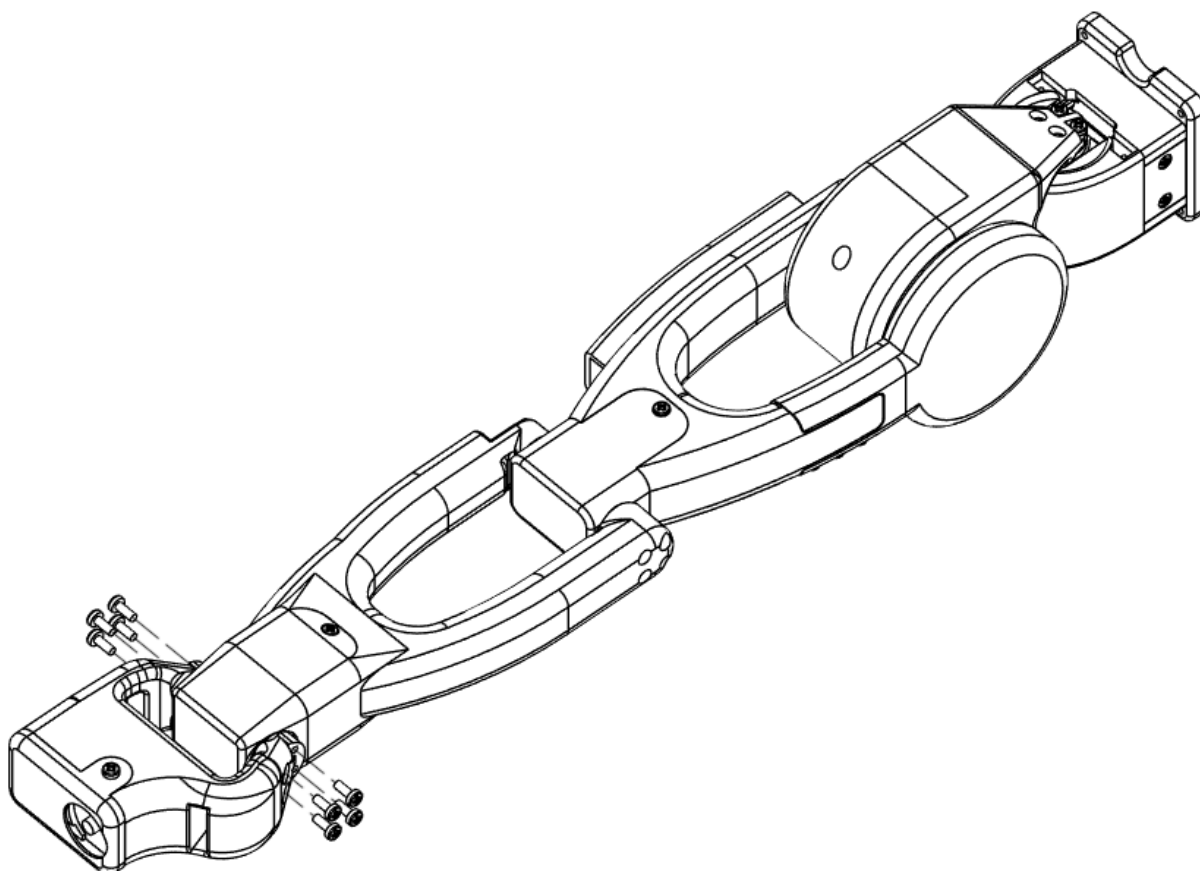
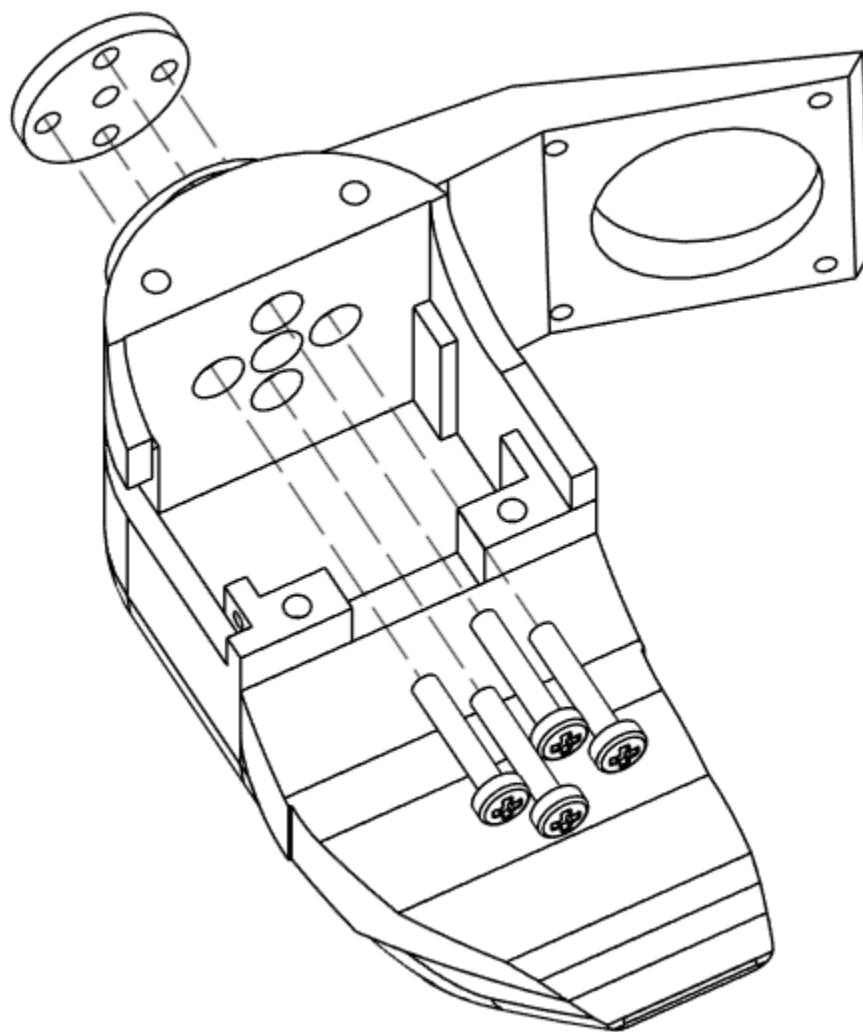
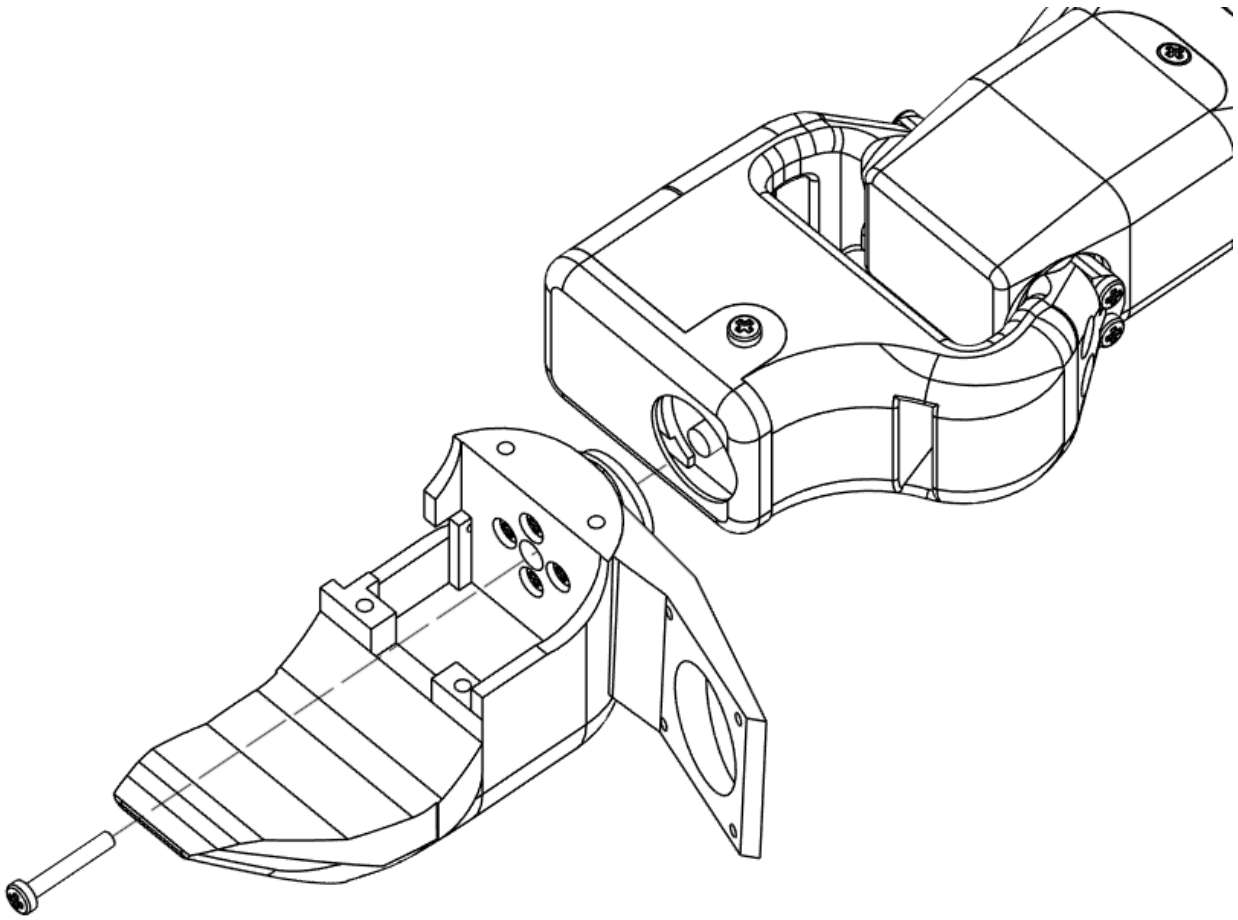
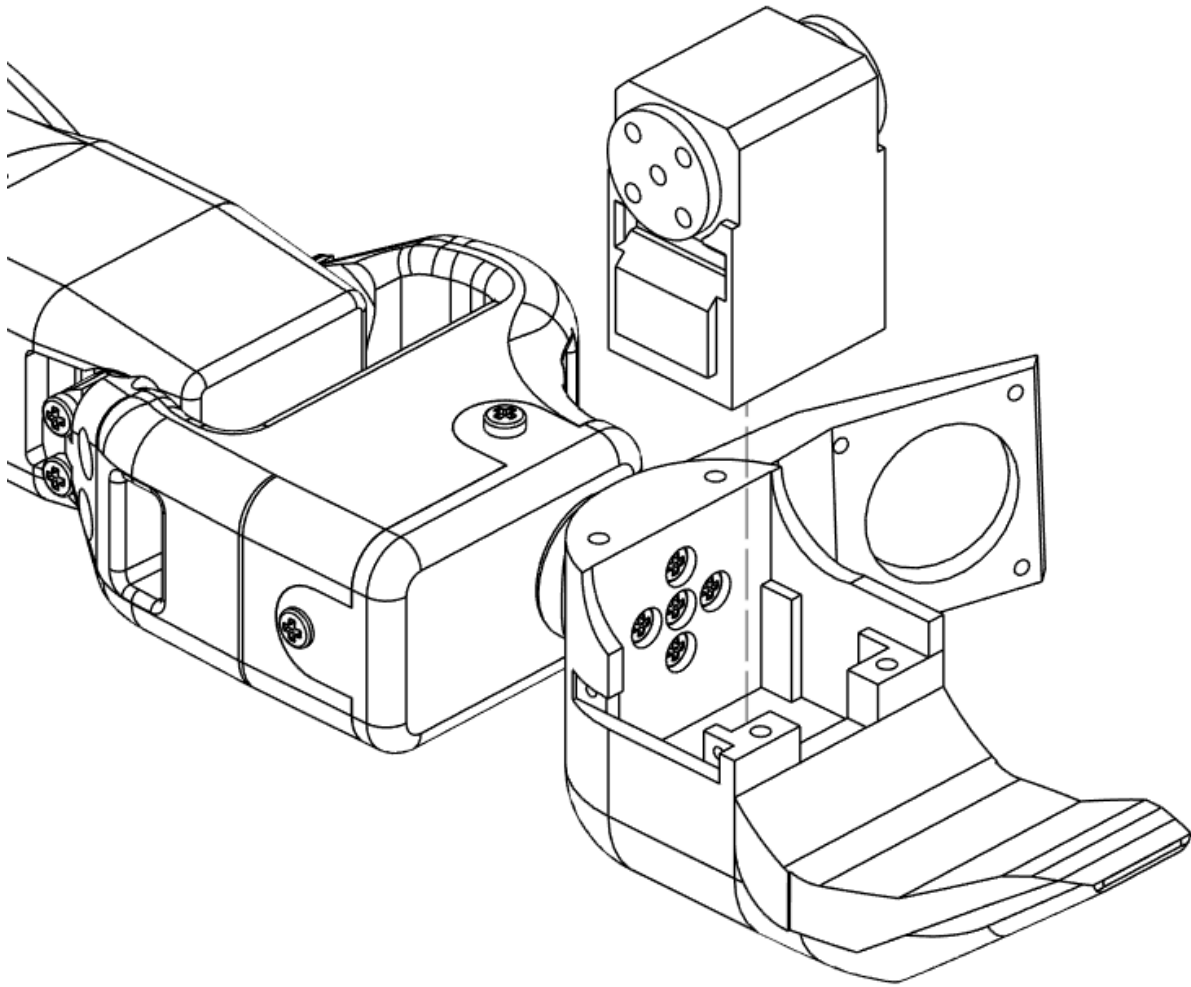

Figure 10.16 - Wrist Assembly
Figure 10.17 - Gripper Base & Motor Horn Assembly
Figure 10.18 - Gripper Assembly
Figure 10.19 - Motor 6 Assembly
17. Fasten Wrist to Motor 4 as shown in Figure 10.16
- a. (8) M3x8mm
18. Fasten Driven Motor Horn to Gripper Base as shown in Figure 10.17
- a. (4) M3x16mm
19. Fasten Gripper Base Assembly to Motor 5 as shown in Figure 10.18
- a. (1) M3x20mm
20. Insert Motor 6 into Gripper Base as shown in Figure 10.19